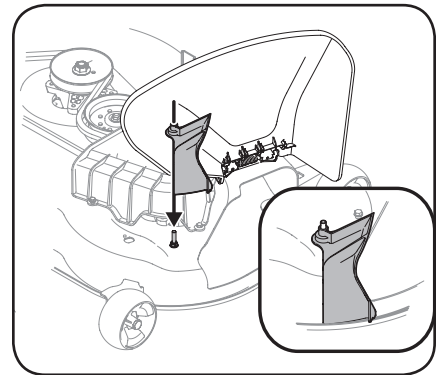

Figure 1-4
2. Position the chute adapter over the pin. See Figure 1-4.